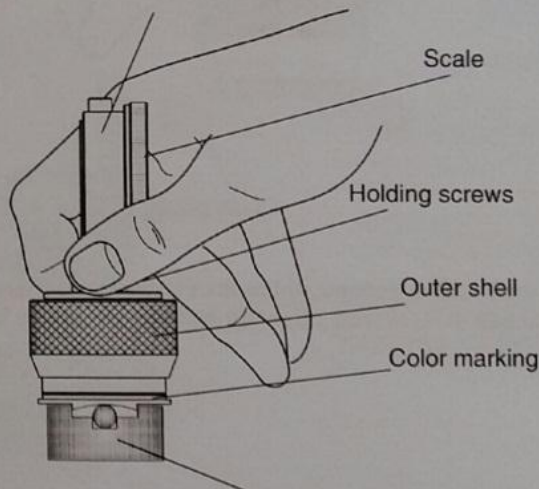

fig. 3.3.1
- Press the durometer down on the optional Zero Test Block (HP-PT) (fig. 3.3.1). Do not move the spring-loaded outer shell.